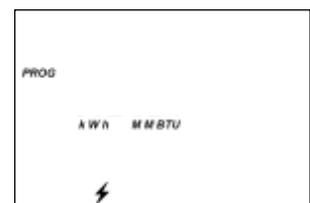
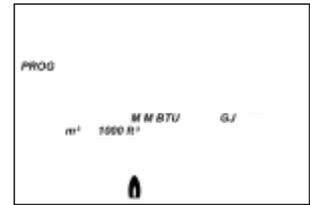
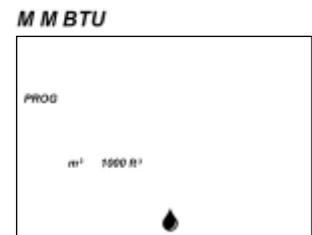

Fig. 15
Fig. 16
Fig. 17
- Press  to accept default auxiliary fuel: electricity (). See Fig. 15.
- a. Press  or  to select auxiliary fuel: electricity (, default Fig. 15), natural gas (, Fig. 16), oil (, Fig. 17), or propane (, Fig. 18).
- For electricity () , default is *kWh* (Fig. 15) but may be changed to
- For natural gas () , default is *m³* or *1000 ft³*(Fig. 16) but may be changed to *GJ* or *MMBTU* If therms is the common unit of measure, select *1000 ft³* .
- For oil () , default is *L* or *US gal* (Fig. 17).